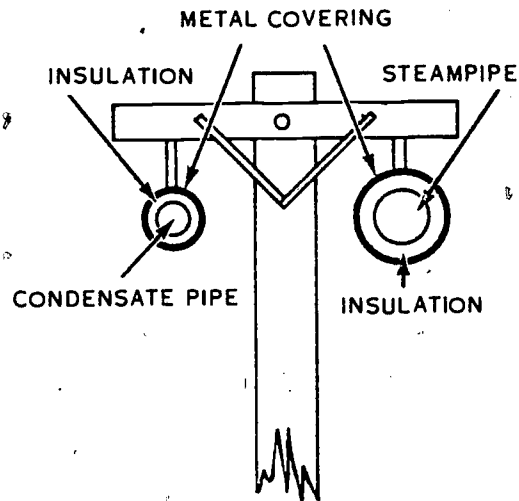

Figure 48. Steam and condensate lines supported by poles.
8. *Overhead distribution systems.* Overhead distribution systems are often used in temporary installations; however, they are sometimes used in permanent installations. The main drawback to this type of distribution system is the high cost of maintaining it. These overhead systems are similar in many respects to underground distribution systems. They require valves, traps, provision for pipe expansion, and insulated pipes. The main difference is that the steam distribution and condensate return piping are supported on pipe hangers from poles, as illustrated in figure 48, instead of being buried underground.